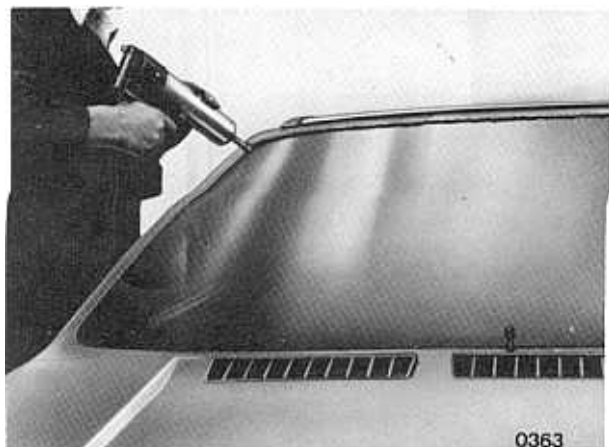

Fig. 15 2/4 - Applying silicon sealant.
- Check the whole adhesion surface between sealant and glass (5) which should be uniform and smooth; where depressions are encountered, even them out with sealant as shown in fig. 15 2/4.